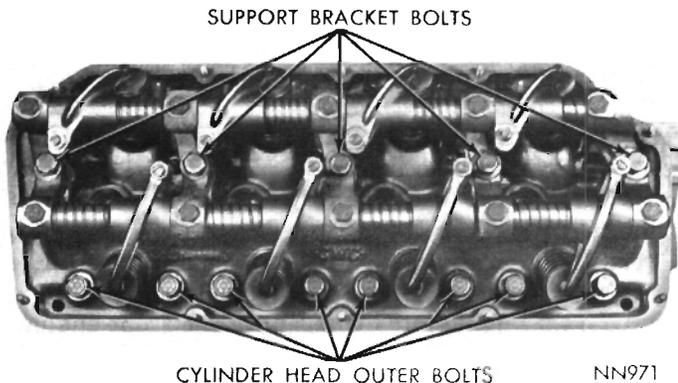
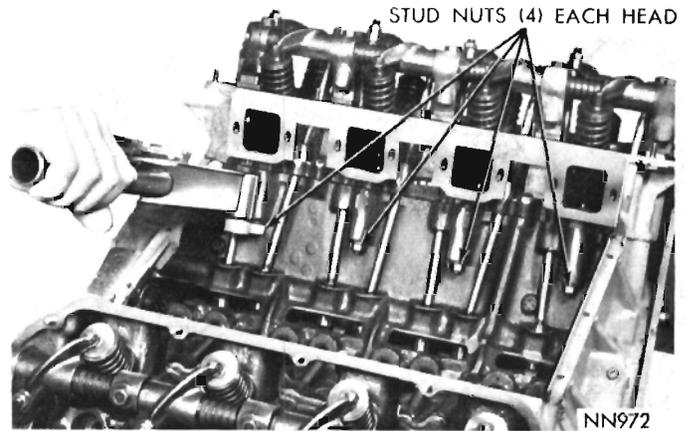
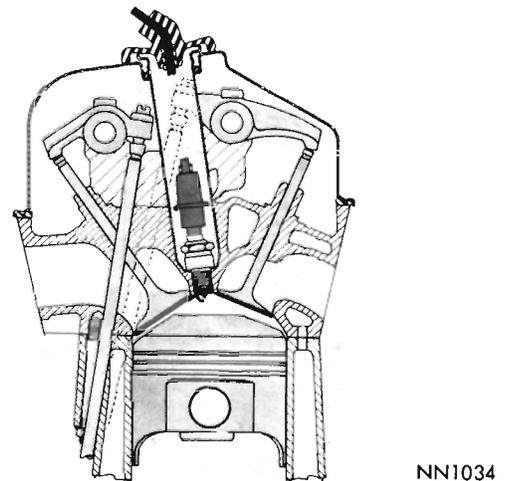

Fig. 4—Cylinder Head Attaching Bolts
Fig. 5—Removing or Installing Cylinder Head Stud Nuts
Fig. 6—Hemi-426 Engine Combustion Chamber Cross Section
Each chrome alloy cast iron cylinder head is held in place by 13 bolts (Fig. 4) and 4 studs, nuts and washers (Fig. 5). The stud nuts are tightened from inside of the tappet chamber. Aluminum spark plug tubes (shown in cross section in Figure 6) serve as spark plug gaskets. The tubes project through the cylinder head cover and are sealed against oil leaks.
(1) With cylinder head cover removed, remove the five bolts, (3/4 inch hexagon) that attach the rocker arm support brackets to the cylinder head and block (Fig. 4).
(2) Remove rocker arm assemblies.